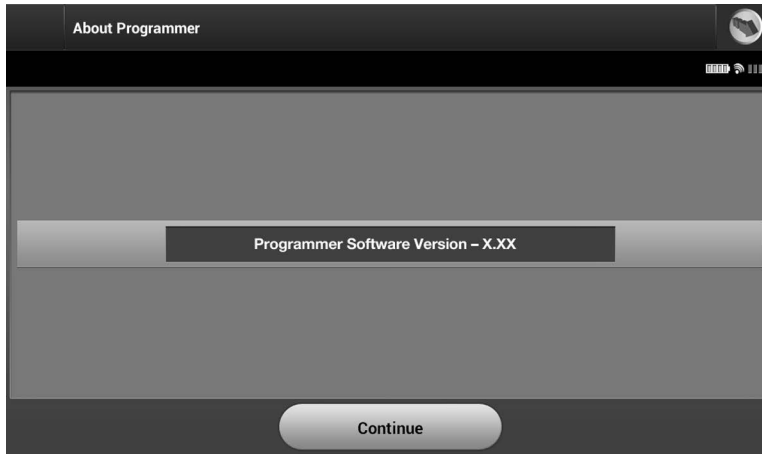

Figure 14: *Programmer Software Version information screen*
1. Select About Programmer on the Programmer Settings screen. The Programmer Software Version information screen appears (Figure 14).